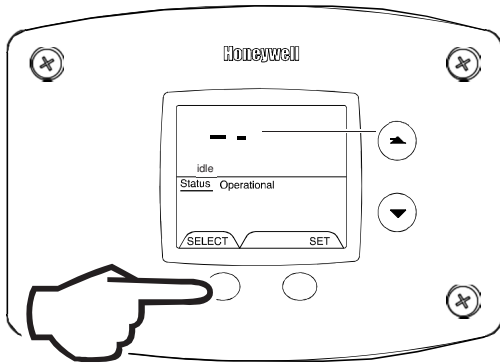

Figure 38
- 8. Error Code History (Displays if there are present error codes or up to 10 previous error codes). Water Heater Display will show -- if there are no error codes (Fig. 38).